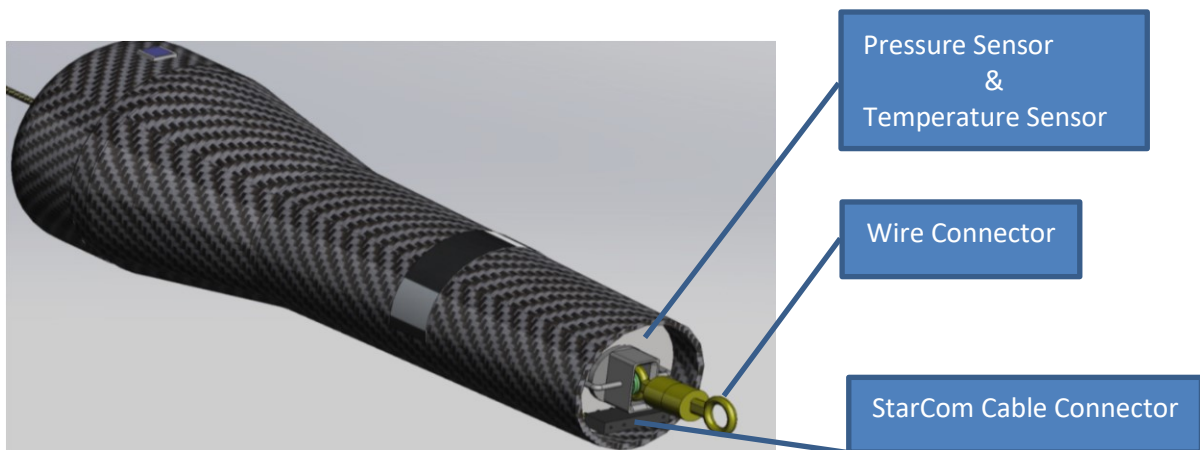

Figure 2 Casing bottom view
Star Oddi (SO) has made a special “StarCom” cable, that can MCLR (HW reset) PT-Geyser. Baud speed is 38400. The cable connection is at the bottom of the casing, see figure 2.